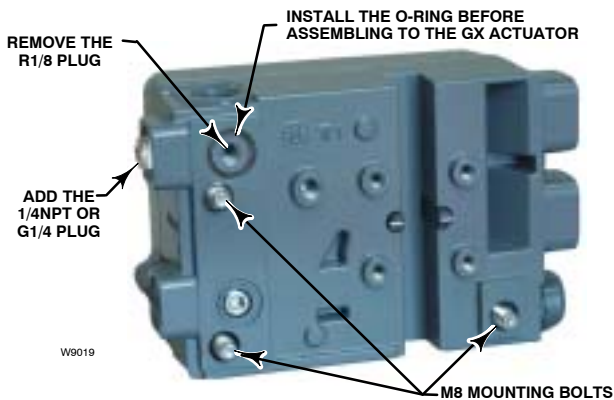

Figure 2-9. Modifications for Fisher GX Actuator – Air-to-Open Construction Only
5. Remove the top plug (R1/8) from the back of the DVC2000 housing. This pneumatic output port on the DVC2000 lines up with the integral GX actuator pneumatic port. See figure 2-9.
- To convert to fail-closed, remove the R1/8 pneumatic plug on the back of the DVC2000 housing and install an O-ring. Plug the external pneumatic output with a 1/4NPT or G1/4 plug (depending on the housing version). Refer to figure 2-9.